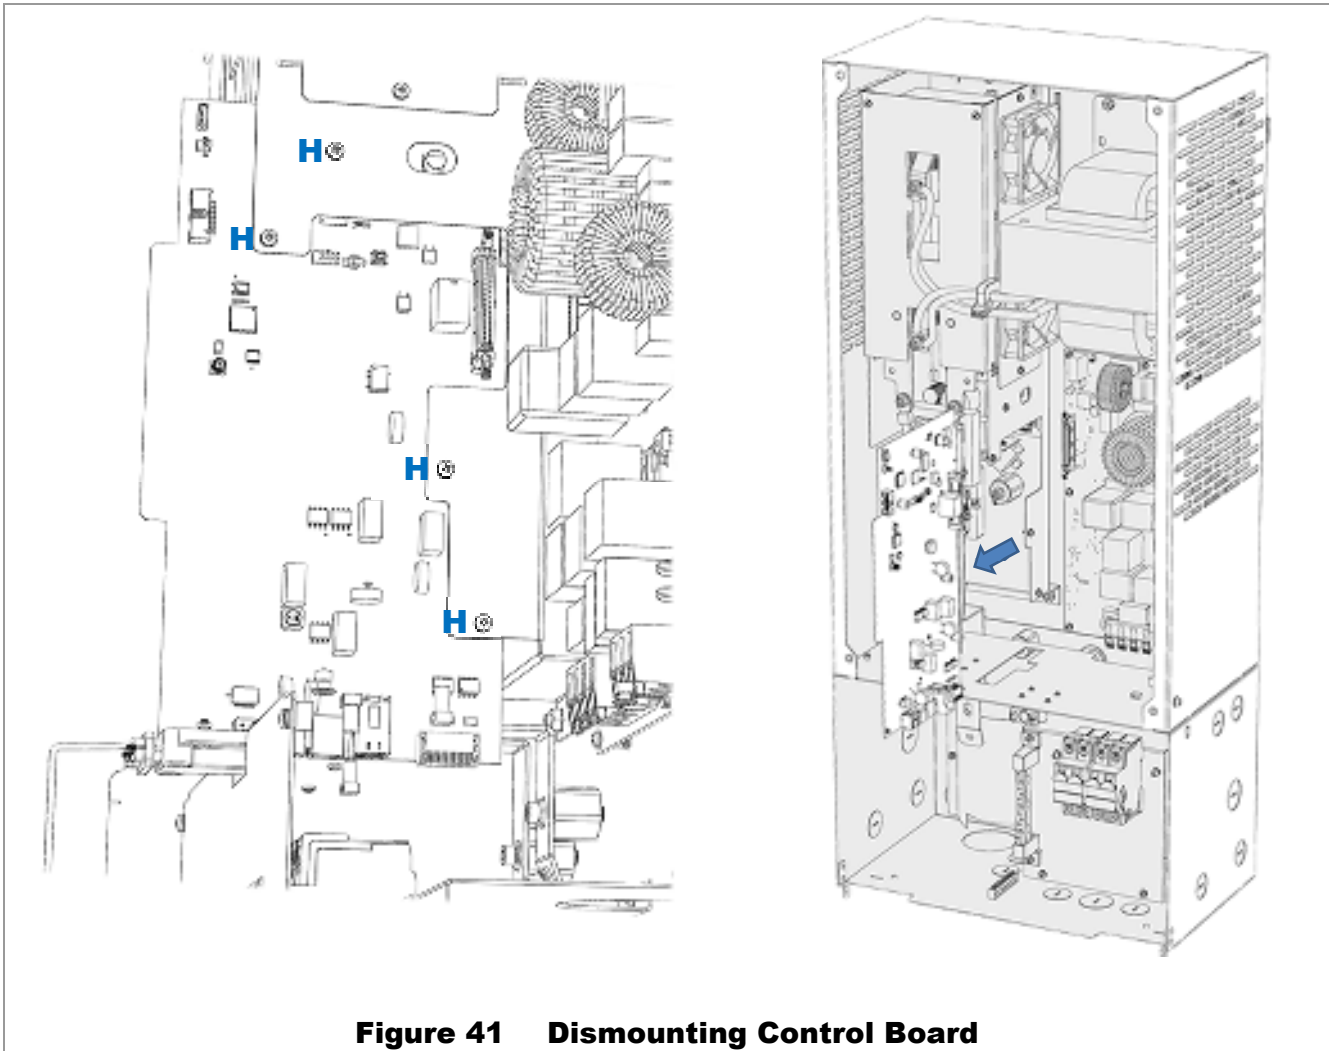

Figure 41 Dismounting Control Board
4. Using a #2 Phillips screwdriver, remove 4 screws **H** from the control board. See Figure 41.
- Carefully remove the control board, pulling toward the front of the inverter, as shown in Figure 41.